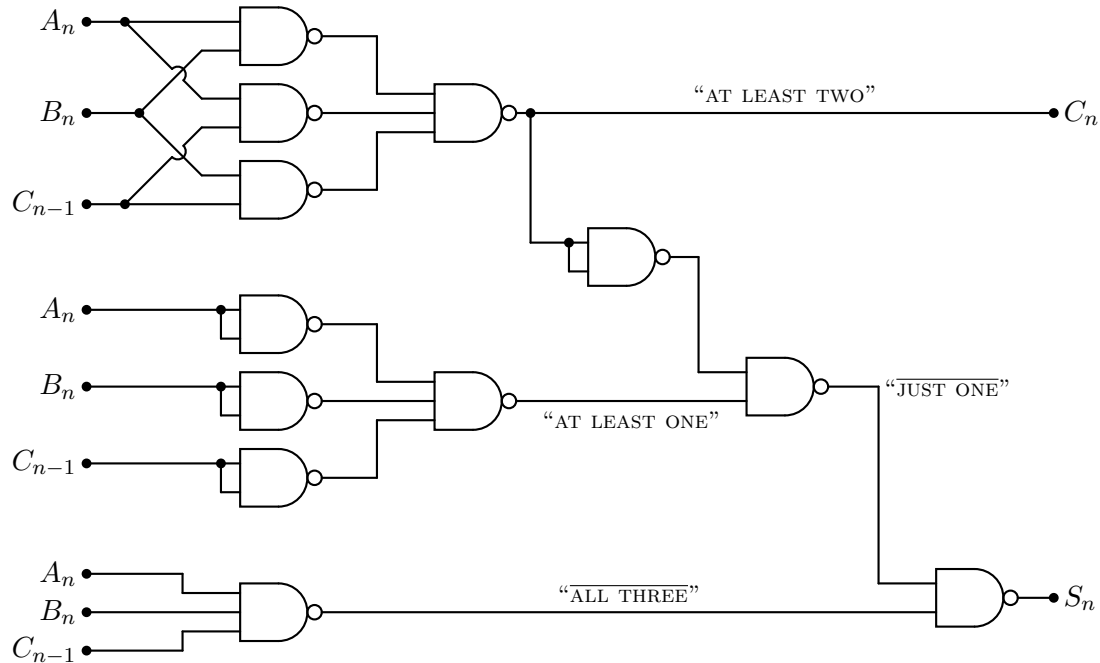
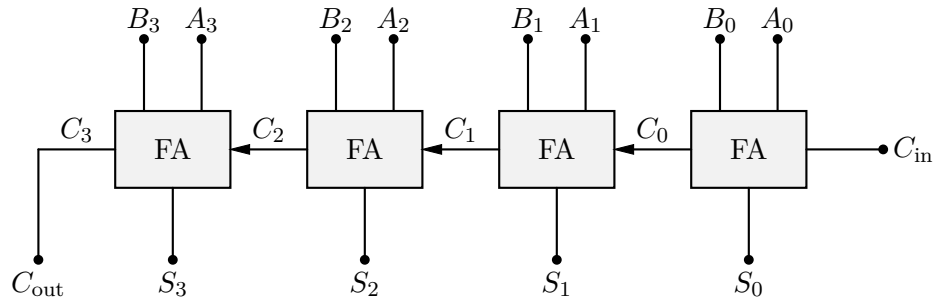

Figure 2: A full adder built with NAND gates. Labels describe the functions of blocks.
Figure 3: A block diagram of a 4-bit adder built from full adders.
6. The circuit shown in Figure 2 is referred to as a *full adder*. A chain of N full adders can add two N -bit numbers A and B one bit at a time, starting from the least significant digit, giving their N -bit sum.
- Write down the truth table for a full adder. You may reference Figure 2, or you can start from the functional definition of a full adder.
7. The 4-bit adder available on the logic board is a single integrated circuit (74LS283) that performs the function of four full-adder circuits like the one in Figure 2. A schematic diagram of four full adders connected to form a single 4-bit adder with carry is shown in Figure 3. Notice that the carry input and the carry output allow you to connect N 74LS283 integrated circuits together to obtain a $4N$ -bit adder.